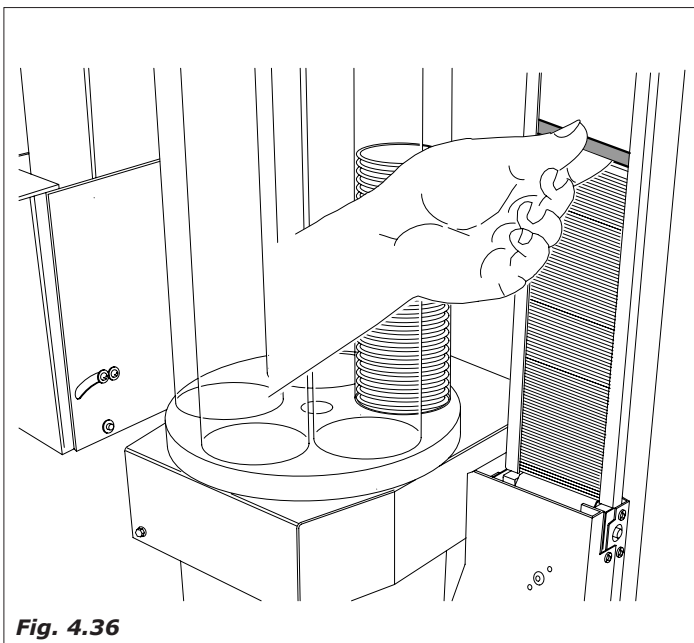

Fig. 4.36
- Check that the spoon are cut burr-free, that they are not bent and that they are all placed horizontally (Fig.4.36).